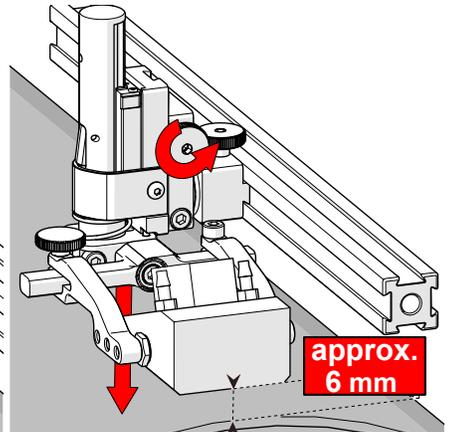

Fig. 81 - Lower toward scan surface
3. Tighten the vertical adjustment knob (Fig. 81).